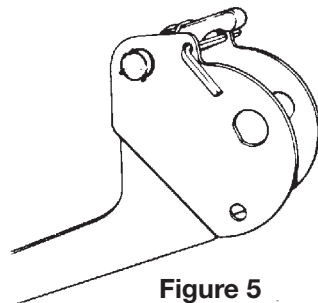

Figure 5
7. Hold the left handle (53) in vise with the drive pawl facing up and the handle pointing to your left (see Figure 5). Pull the drive pawl up, moving counter-clockwise, and insert a 1/8" pin (rod or nail) through the small holes in the plates near the drive pawl to hold it in a horizontal position (see Figure 5).